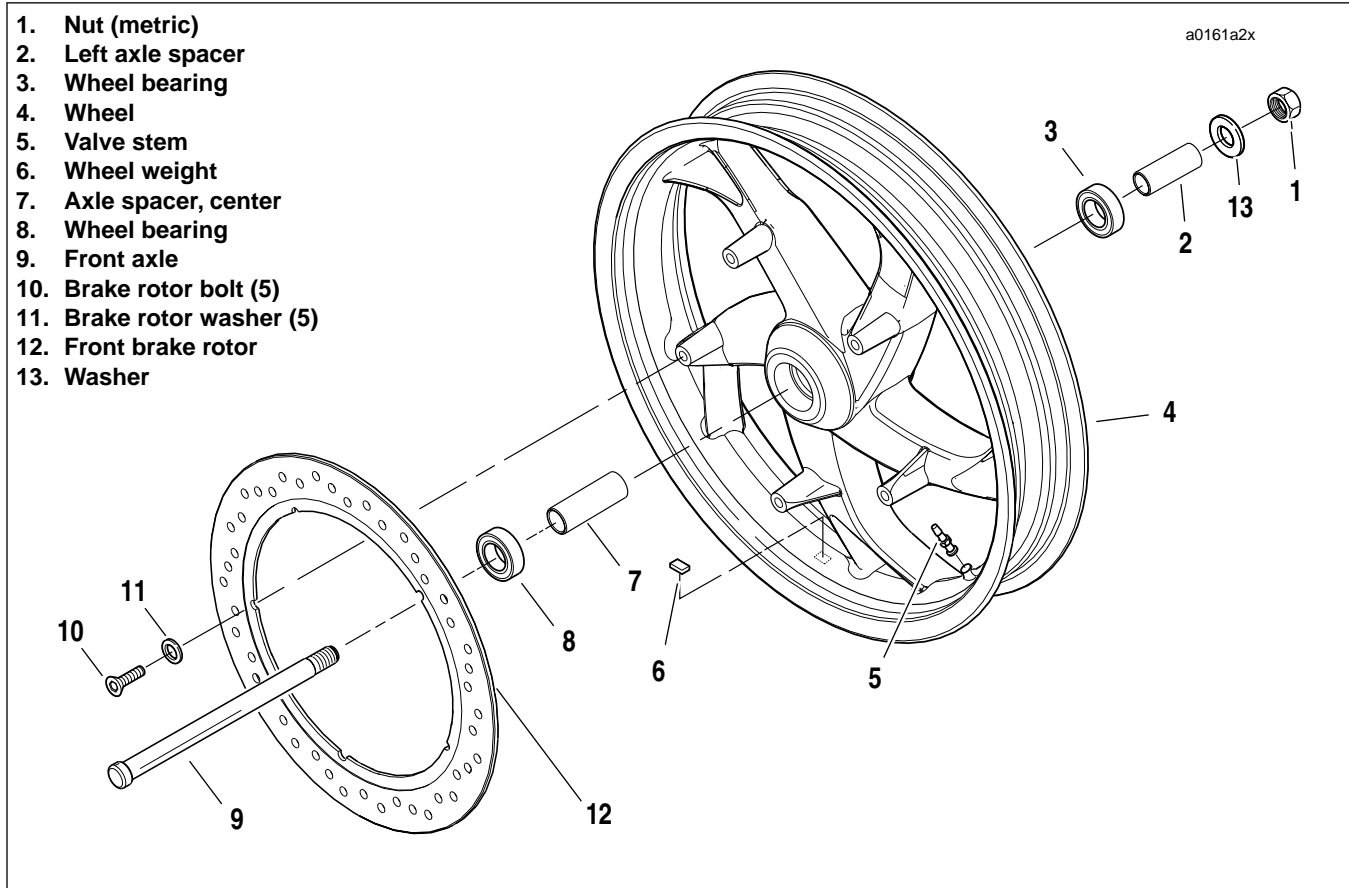

Figure 2-7. Front Wheel Assembly
1. See Figure 2-7. Remove five bolts (10) and washers (11) to detach front brake rotor (12) from wheel hub. Discard washers.
1. See Figure 2-7. Install front brake rotor (12) on right side of wheel.
- b. Apply LOCTITE 272 (red) to threads of each of the five T40 TORX screws (10).
1. See Figure 2-7. Install front axle.
- d. Install axle spacer (2) and washer (13).
3. See Figure 2-7. Install axle nut.
- b. Install axle nut (1) (metric) over threaded end of axle.
- d. While holding axle stationary, tighten axle nut (1) (metric) to 38-42 ft-lbs (52-57 Nm).